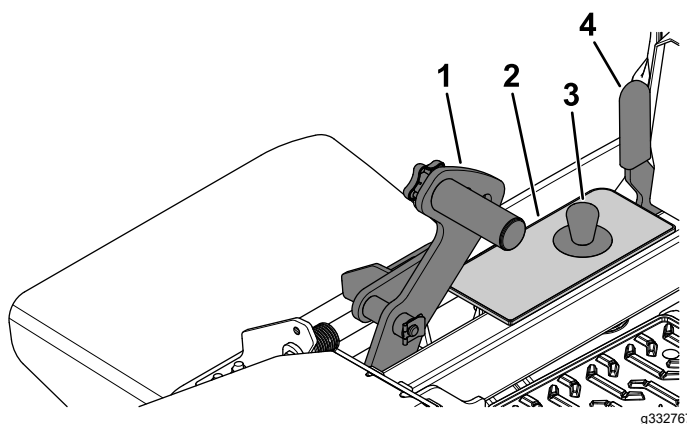

Figure 32
1. Push the deck-lift pedal fully forward to lock the mower deck in the TRANSPORT position (also the 127 mm/5 inches cutting height position) as shown in Figure 32.
2. To adjust, remove the pin from the height-of-cut bracket (Figure 32).
3. Select a hole in the height-of-cut bracket corresponding to the height of cut desired, and insert the pin (Figure 32).